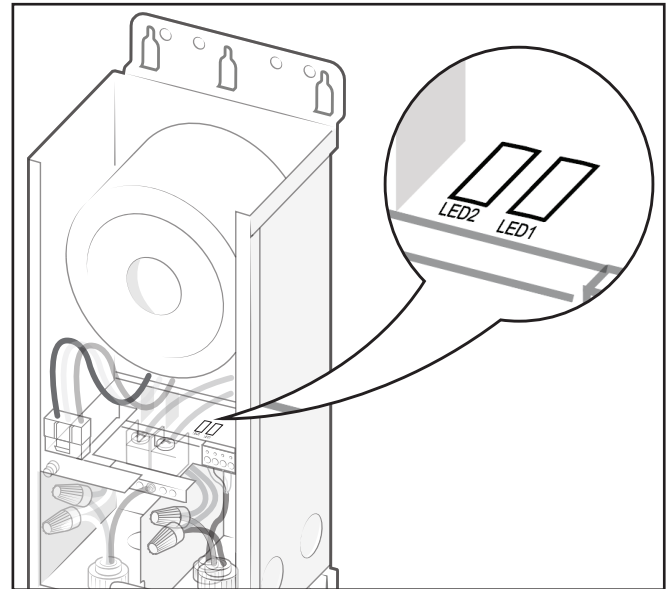

Figure 7. LED1 and LED2
9. Turn on the breaker to restore power (LED2 will turn on red and LED1 will start flashing green). Pool & Spa Lights will be off due to control from automation, see Figure 7.